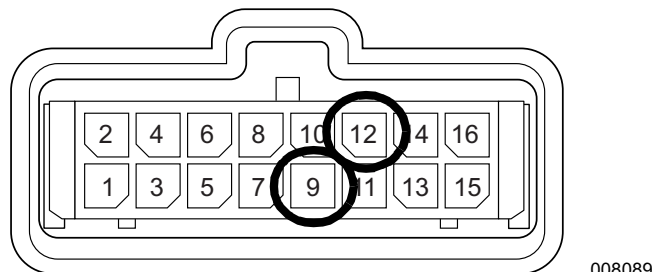

Figure 3-27. ECU/Throttle Body Connector
2. See Figure 3-27. Disconnect the Cylinder Head Temperature Sensor and the 16-pin harness connector (CONN1) at the ECU. Probe the YE terminals at the sensor connector and at the ECU (CONN1).